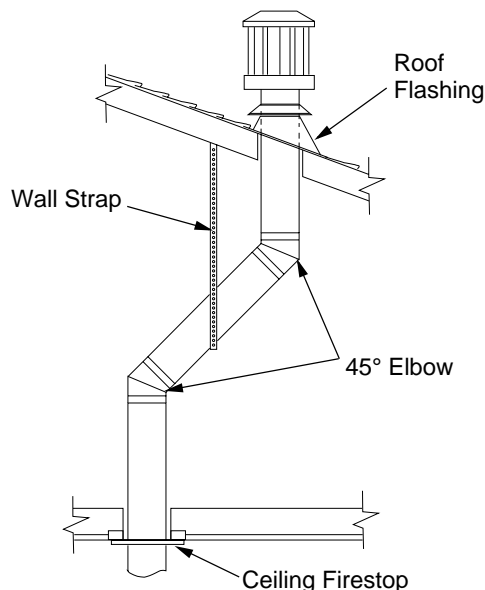

Figure 24 - Offset with Wall Strap and 45° Elbows
- Determine the route your vertical venting will take. If ceiling joists, roof rafters, or other framing will obstruct the venting system, consider an offset (see Figure 24, page 13) to avoid cutting loadbearing members. **Note:** Pay special attention to these installation instructions for required clearances (air space) to combustibles when passing through ceilings, walls, roofs, enclosures, attic rafters, etc. Do not pack air spaces with insulation. Also note maximum vertical rise of the venting system and any maximum horizontal offset limitations. Offsets must fall within the parameters shown in Figure 13 on page 8.
Note: If an offset is needed to avoid obstructions, you must support the vent pipe every 3 feet (91.4cm). Use wall straps for this purpose (see Figure 24). Whenever possible, use 45° elbows instead of 90° elbows. The 45° elbow offers less restriction to the flow of the flue gases and intake air.
5. Place the flashing over the pipe section(s) extending through the roof. Secure the base of the flashing to the roof and framing with roofing nails. Be sure roofing material overlaps the top edge of the flashing as shown in Figure 24. There must be a 1" (2.5cm) clearance from the vent pipe to combustible materials.